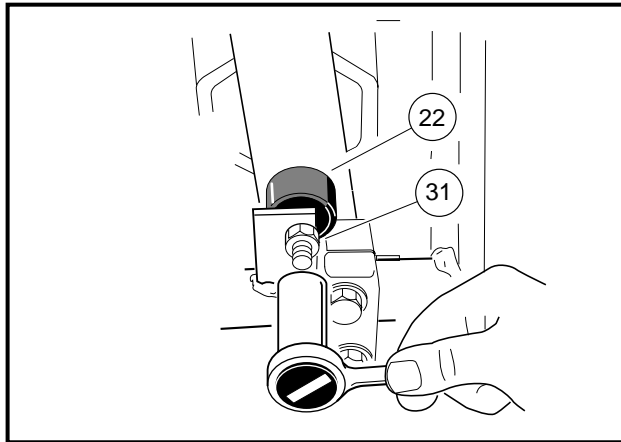
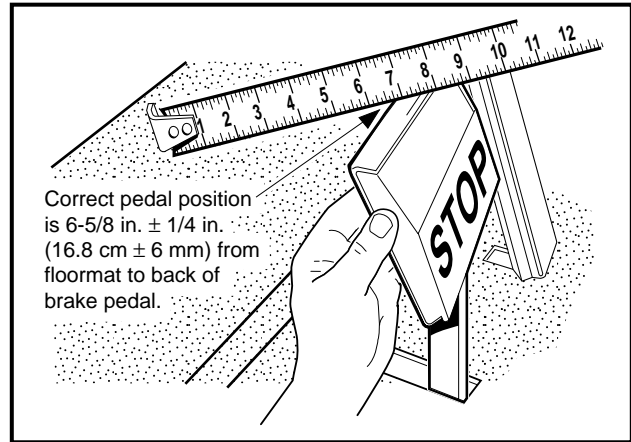

Figure 5-2 Adjust Brake Pedal Height
Figure 5-3 Measure Brake Pedal Height
3. Loosen the brake stop jam nut (31) (**Figure 5-2, Page 5-3**).
4. Pull the brake pedal toward the rear of the vehicle until the brake stop bumper will not allow the pedal to travel any further (**Figure 5-3, Page 5-3**).
5. While holding the brake pedal in this position, measure the distance from the back of the brake pedal to the floorboard (**Figure 5-3, Page 5-3**). If the measured distance is between 6-3/8 inches (16.2 cm) and 6-7/8 inches (17.5 cm), proceed to step 9.
6. Adjust the brake stop bumper (22) up or down (**Figure 5-2, Page 5-3**). Adjusting the bumper upward decreases the distance between the pedal and the floorboard. Adjusting the bumper downward increases the distance between the pedal and the floorboard. Proper brake pedal height is 6-5/8 inches \pm 1/4 inch (16.8 cm \pm 6 mm) (**Figure 5-3, Page 5-3**).
7. Tighten the jam nut (31) to 8 ft-lb (9.5 N·m) (**Figure 5-2, Page 5-3**).